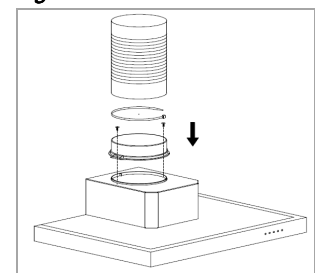

Fig. 2a
- Insert the two non-return valves by lightly bending them from above into the connecting piece (*Fig. 2a*).